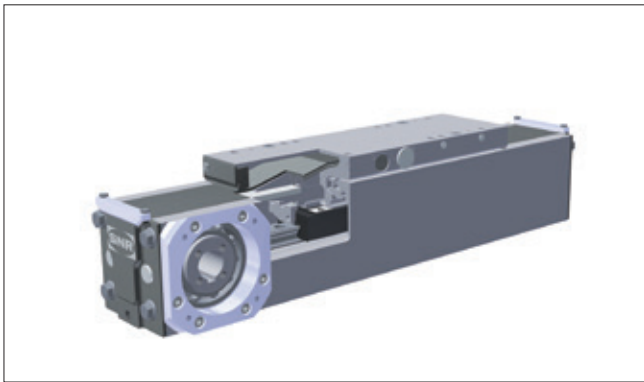

Figure 5.4 ___ AXF with toothed belt drive
- 2 drive versions – toothed belt drive or screw drive (Figures 5.4 and 5.5)